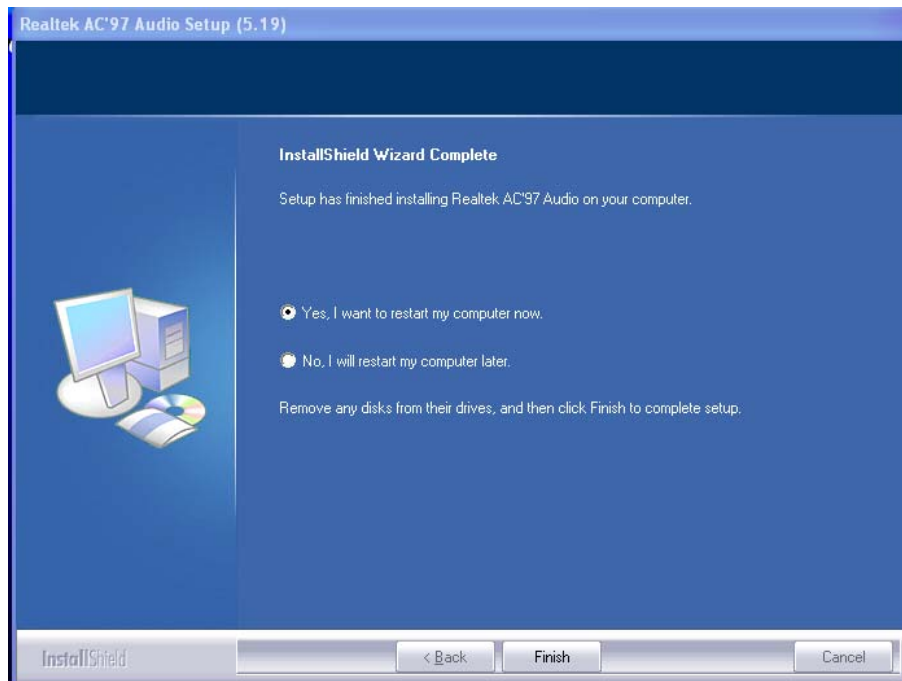

Figure 6-24: AC'97 Driver Installation Complete
Step 11: When the driver is installed, the driver installation finish screen in Figure 6-24 appears.